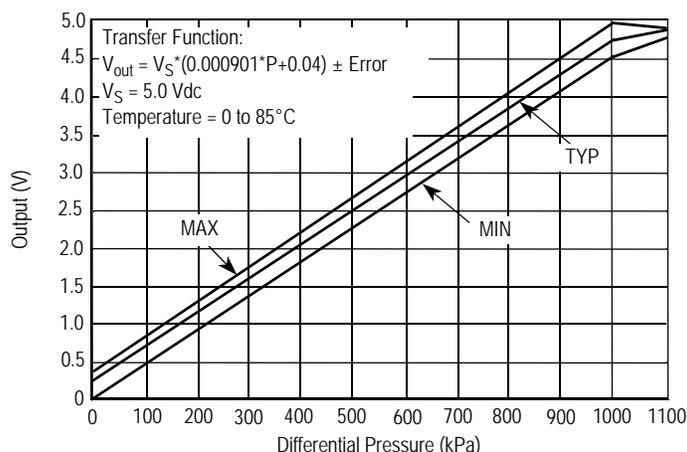
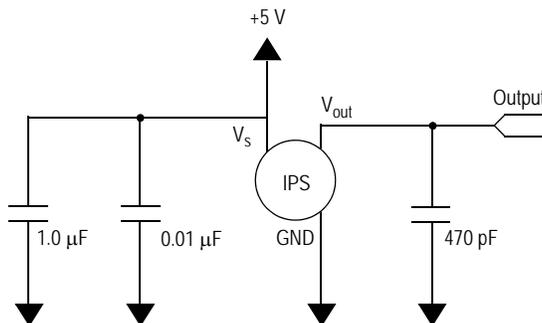

Figure 2. Output vs. Pressure Differential
Figure 4. Recommended Power Supply Decoupling and Output Filtering
**Table 1. Operating Characteristics** ( $V_S = 5.0$  Vdc,  $T_A = 25^\circ\text{C}$  unless otherwise noted,  $P_1 > P_2$ . Decoupling circuit shown in Figure 4 required to meet electrical specifications.)
Figure 2 shows the sensor output signal relative to pressure input. Typical, minimum, and maximum output curves are shown for operation over a temperature range of 0° to 85°C using the decoupling circuit shown in Figure 4. The output will saturate outside of the specified pressure range.
Figure 4 shows the recommended decoupling circuit for interfacing the output of the integrated sensor to the A/D input of a microprocessor or microcontroller. Proper decoupling of the power supply is recommended.